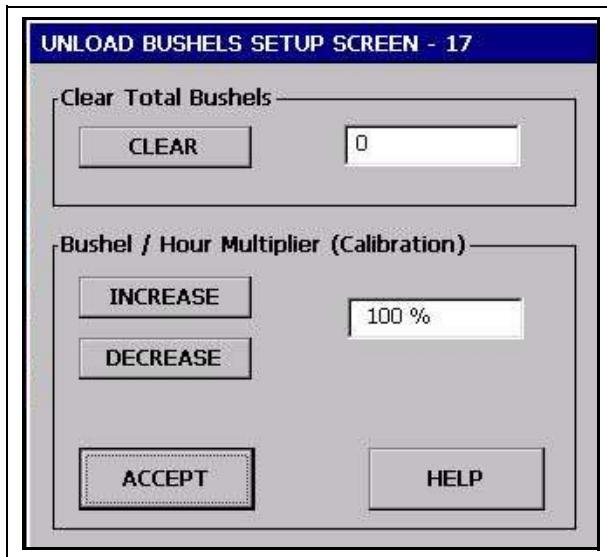

Figure 6M
4. **BPH Calibration:** Touching the BHP Calibration button will display the Unload Bushels Setup screen. (*See Figure 6M.*) As you can see the bushel counter can be cleared by touching the Clear button. However if the bushel counter is out of calibration it can be calibrated by touching the Increase and Decrease buttons.